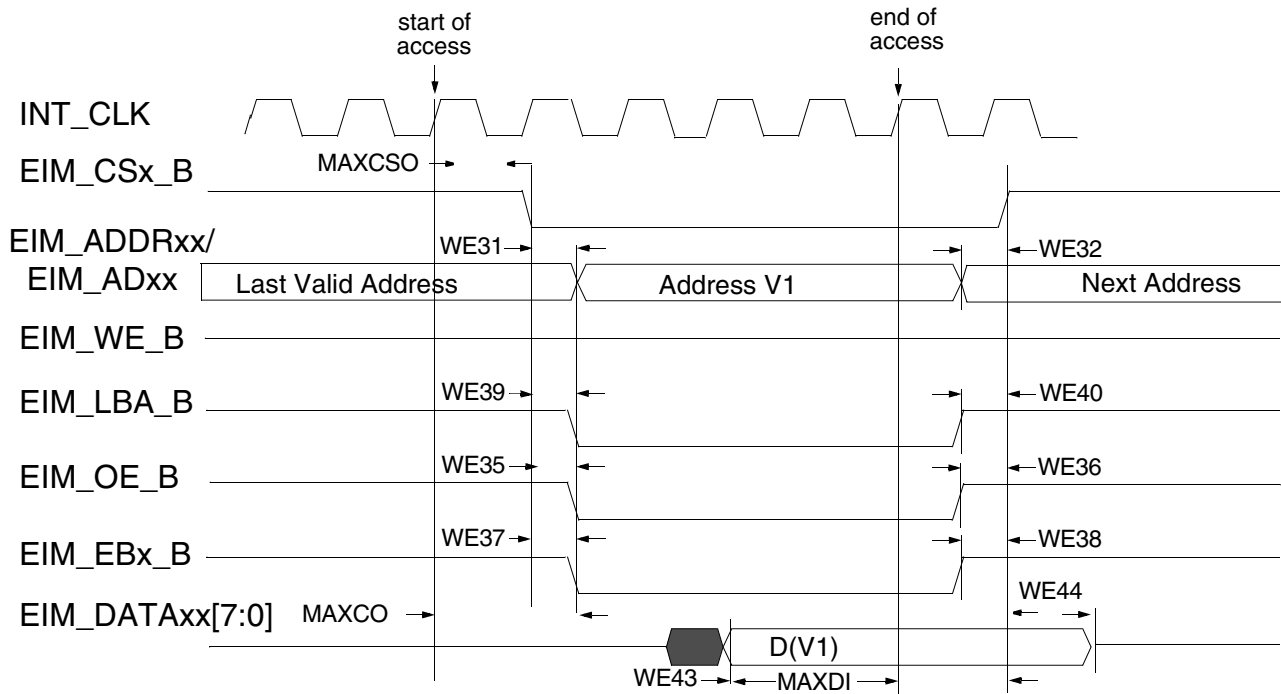
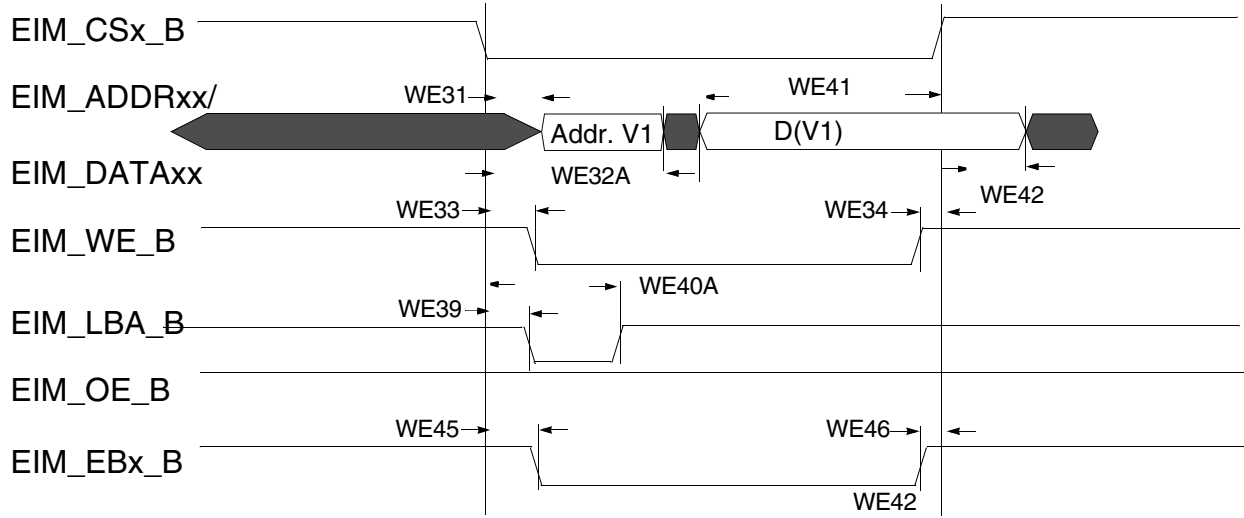
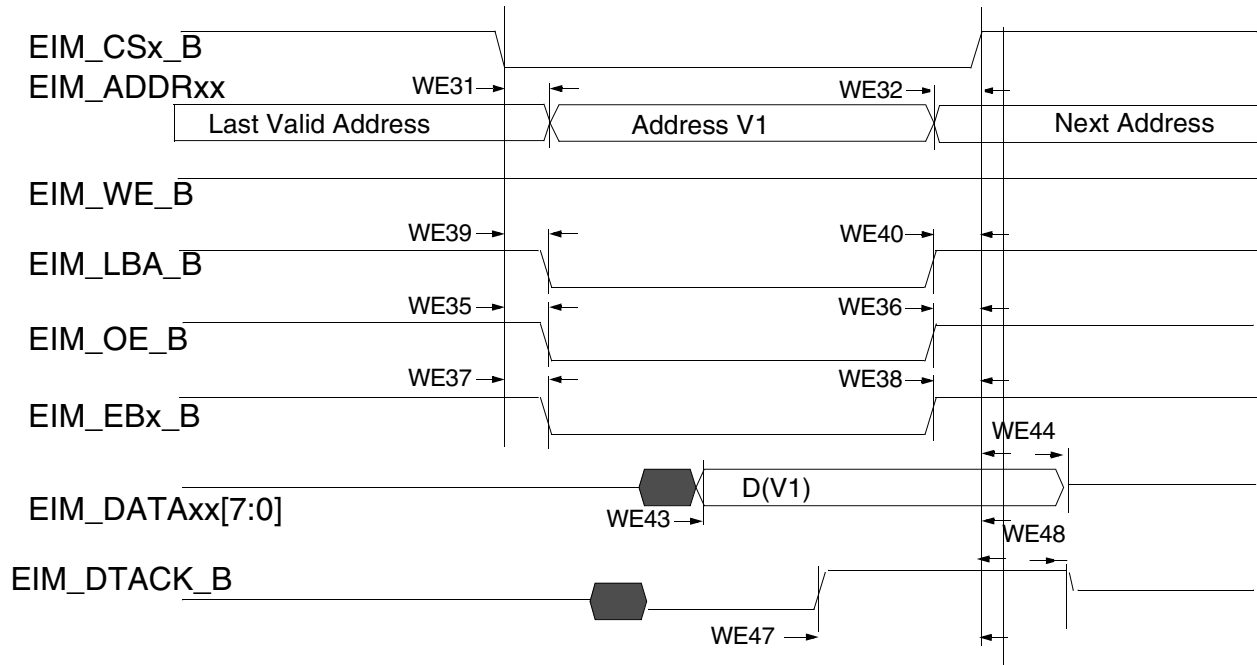

Figure 18. Asynchronous memory read access (RWSC = 5)
Figure 21. Asynchronous A/D muxed write access
Figure 22. DTACK mode read access (DAP=0)
Figure 18 through Figure 22, and Table 46 help you determine timing parameters relative to the chip select (CS) state for asynchronous and DTACK EIM accesses with corresponding EIM bit fields and the timing parameters mentioned above.
Asynchronous read & write access length in cycles may vary from what is shown in Figure 18 through Figure 21 as RWSC, OEN and CSN is configured differently. See the *i.MX 7Dual Application Processor Reference Manual (IMX7DRM)* for the EIM programming model.